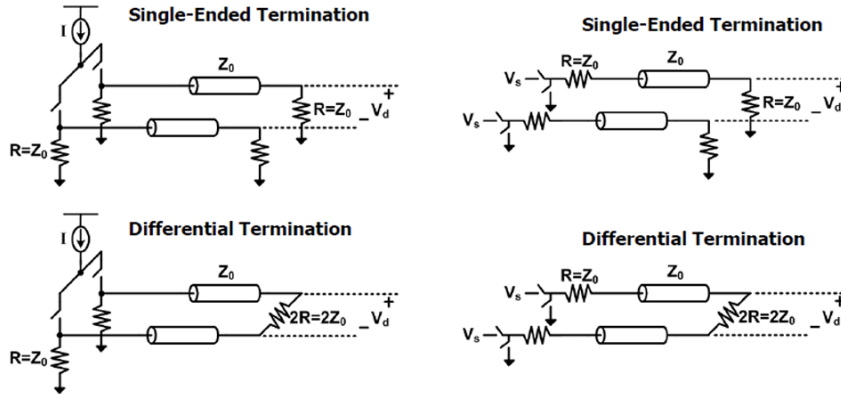

Figure 10 Current Mode and Voltage Mode Transmitters
- Transmitters can operate in voltage-mode or current-mode with single-ended termination or differential termination as shown in Figure 10. Please calculate the power consumption for (a) current-mode with single-ended, (b) current-mode with differential, (c) voltage-mode with single-ended, and (d) voltage-mode with differential termination, assuming V_d is the output swing and termination is 50Ω .